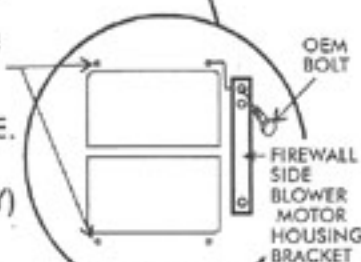

FIGURE 10A
- REMOVE FIREWALL SIDE BLOWER MOTOR HOUSING BRACKET FROM THE EVAPORATOR AND ATTACH TO THE TOP, PASSENGER SIDE OEM FAN MOUNTING CAPTIVE NUT AND SECURE IT WITH OEM BOLT. SEE FIGURE 10A.